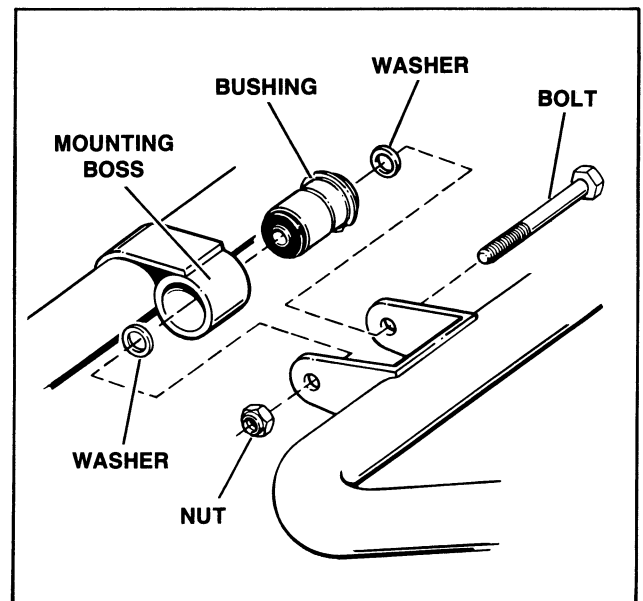

Figure 14 – Rear Fork Bushing
13. REPLACING REAR FORK (Figure 14)
- Place the rear fork in the frame bosses and fasten using bolt (1), washer (2) and nut (4). Do not tighten nut (4) at this time.
- c. Lower vehicle. Compress rear of vehicle to obtain a dimension of 3 inches between top of rear fork rubber bumper and main frame tube. While holding this 3 inch dimension, tighten swing arm bushing mounting bolts (4) to 50-60 ft.-lbs. (6.9-8.3 kgm) torque.
14. REPLACING REAR FORK BUSHING(S) (Figure 14)